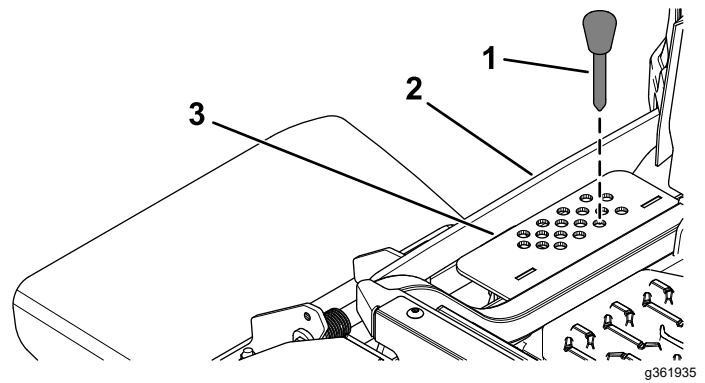

Figure 24
2. Select a hole in the height-of-cut bracket corresponding to the height of cut desired, and insert the pin (Figure 24).
3. Push down on the deck-lift switch until the height-of-cut linkage slightly contacts the height-of-cut pin (Figure 24).